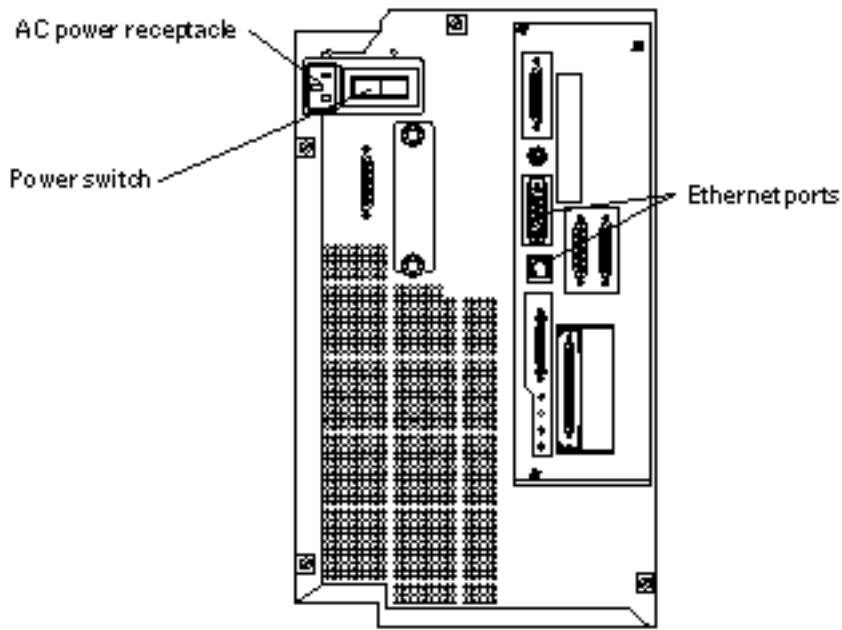

Figure 1–2 Connecting the Netra 150 Server to the Network
3. Connect the power cord to the AC power receptacle at the rear of the Netra 150 server (Figure 1–2).